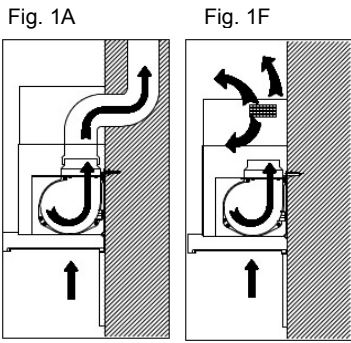

Fig. 4
Prepare the furniture for the hood installation. To install the hood, refer to Fig. 4 and Fig. 5. Remove the right and left covers (Fig. 6) and the metal filters (Fig. 2) to access the anchoring brackets. Insert the hood until the snap-on side supports are hooked and then tighten the screws (A) to tighten the anchoring bracket. Now close the locknut (C) to complete the fixing (Fig. 7). Connect the hood electrically. Refit the right and left covers with the relevant screws (B) and reinstall the metal filters (Fig. 6).